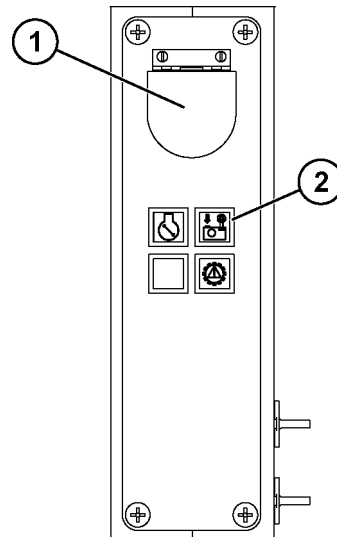

FIGURE 11-5. REAR OF CENTER CONSOLE
A manual snapshot is taken by pressing the data store button (1, Figure 11-5), located at the rear of the center console. When the 7.5 minute snapshot is being recorded by the KOMTRAX Plus controller, snapshot in progress light (2) will be illuminated. During the first five minutes, the LED will be on continuously. During the next two minutes, the LED will flash slowly. During the last 30 seconds, the LED will flash rapidly.